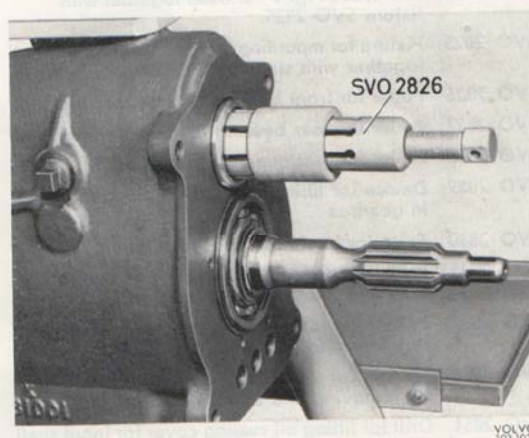

Fig. 4—4. Removing the intermediate shaft front bearing
5. Turn the gearbox completely over. Pull out the front bearing for the intermediate shaft with SVO 2826, see Fig. 4—4. Remove the intermediate flange and then pull off the rear bearing for the intermediate shaft with SVO 2827, see Fig. 4—5.